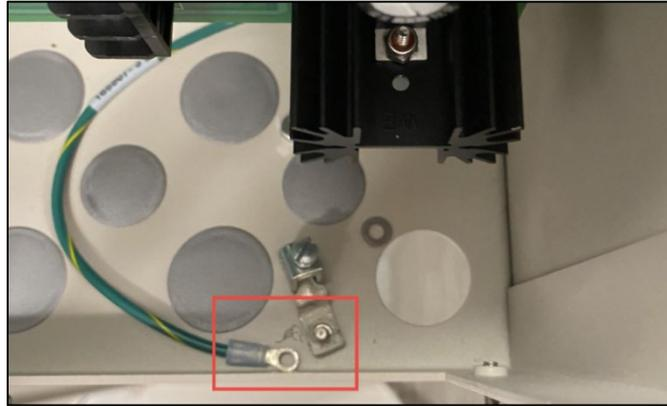

Figure 6 The Disconnected Power Harness Cable
3. Disconnect the power harness cable from the fuse and ground lug with an 11/32-inch socket wrench so that it appears as in Figure 6.